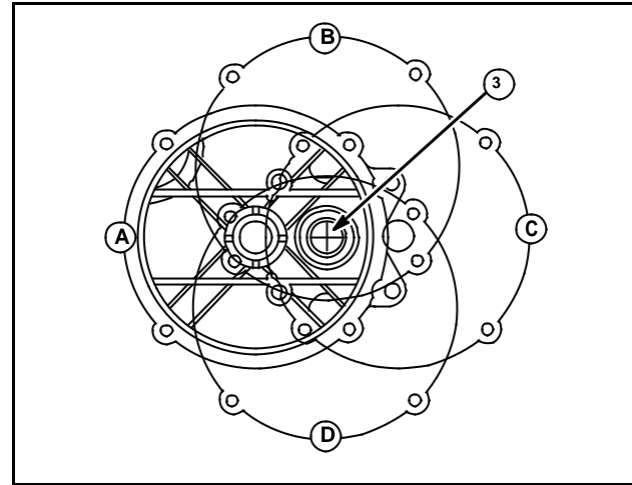

Fig. 44
Install gear case in same position as when removed from engine, Fig. 44. Torque screws with lock washers to 140 in. lbs. (16 Nm).
NOTE: Standard bearing housing position is 9 O'Clock (A), in relation to the engine crankshaft (3). Optional positions are 12 O'Clock (B), 3 O'Clock (C) and 6 O'Clock (D), Fig. 44.